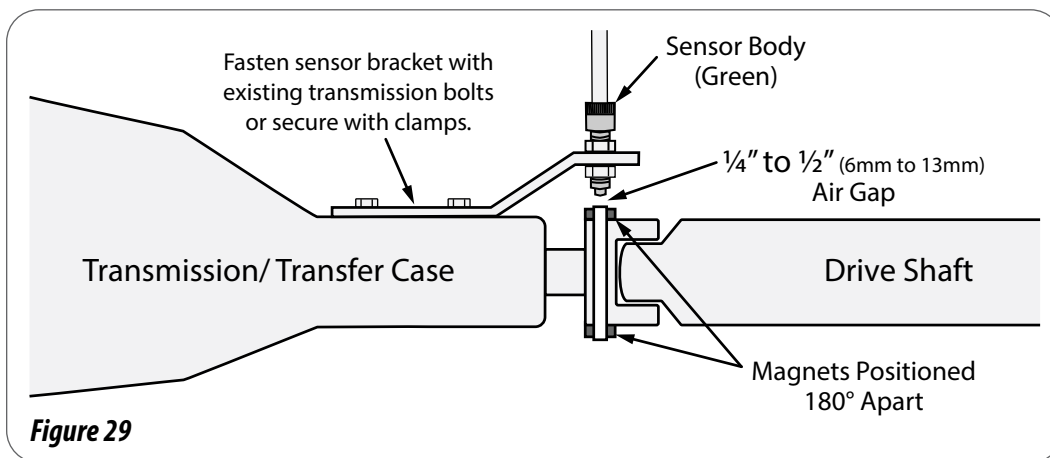

Figure 29
Determine the best location for the magnets on drive shaft according to which is the most practical spot to attach sensor mounting bracket. See figure 29. This position should be no more than 12" (.30 meters) behind the front U-joint. For best results, mount "L" bracket to transmission and mount magnets on drive shaft as close to transmission as possible. This will ensure proper alignment if drive train shifts under heavy loading.
- Attach sensor bracket to vehicle transmission. See Figure 29 below. Use either the short or long end of the bracket as a base.